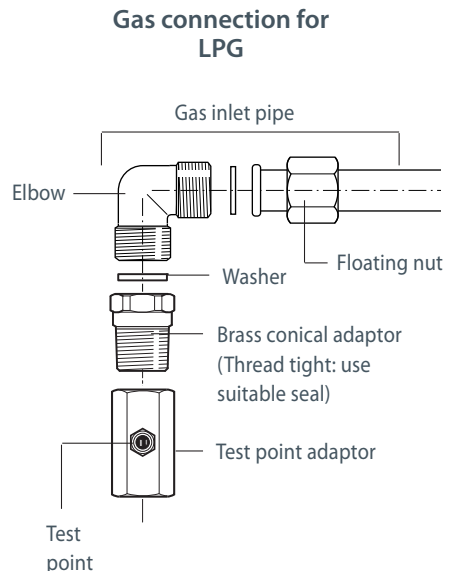

Fig. 6 LPG connection
- For LPG, connect the gas supply to the test point adaptor which is supplied with the appliance (Fig. 6). Ensure that the supply pressure is regulated to 2.75 kPa.